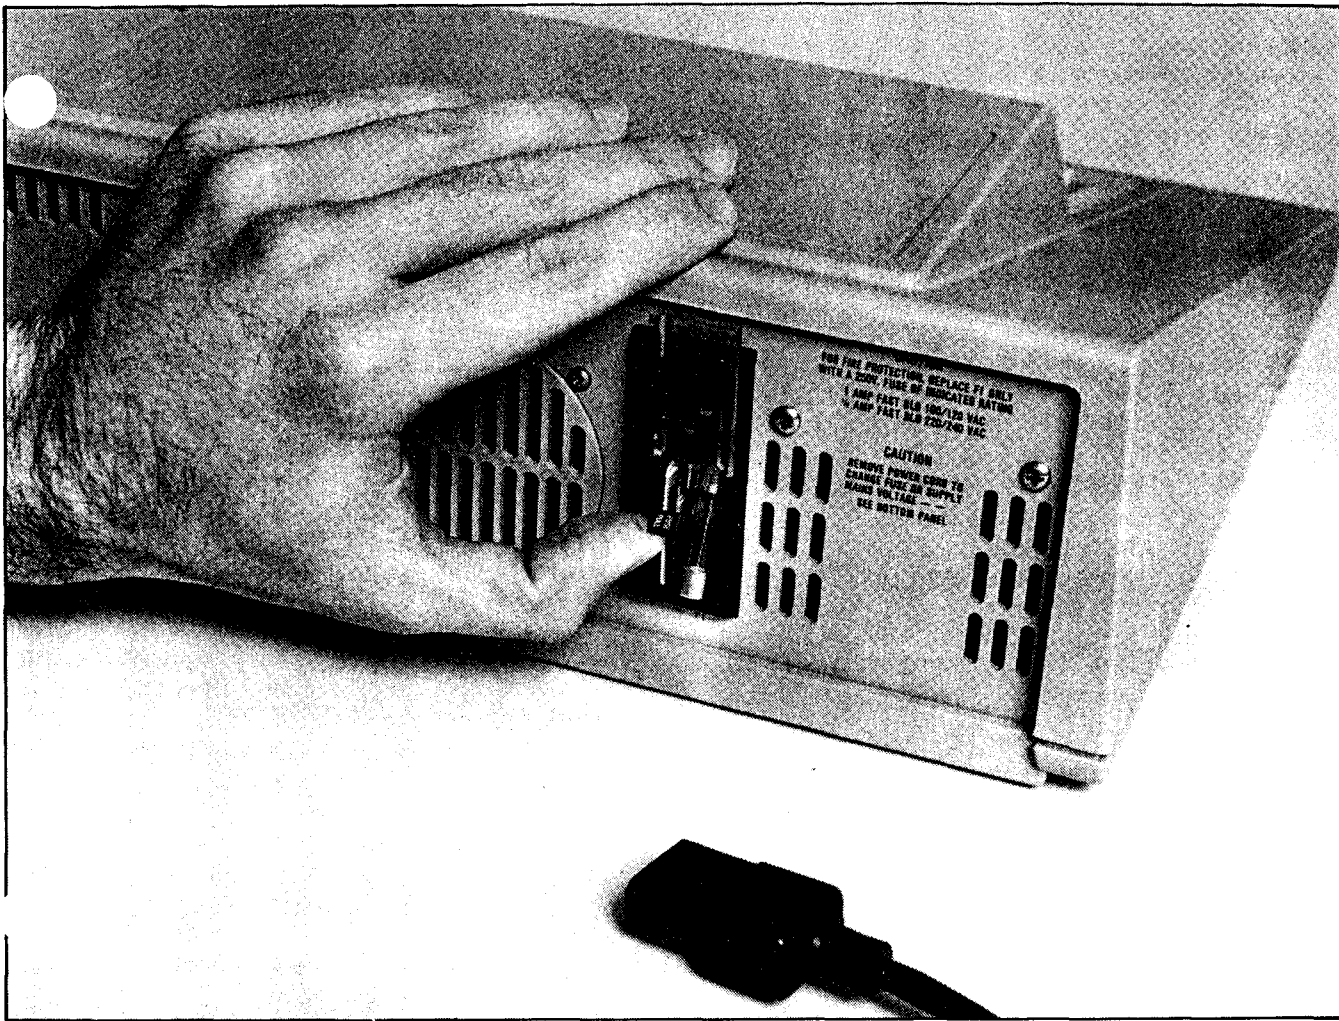

Figure 4-1. Line Fuse Replacement
4-11. The line fuse (F1) is located in a recessed compartment in the rear panel. Figure 4-1 illustrates line fuse replacement. To replace the fuse, proceed as follows:
3. Pull up the plastic lever (as shown in Figure 4-1) to slide the fuse out of the compartment.